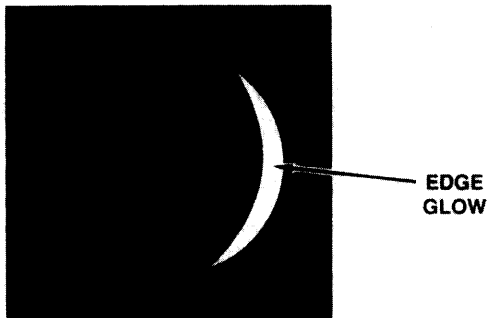

Figure 3-8. Edge Glow.
b. Edge Glow. Edge glow is a bright area (sometime sparkling) in the outer portion of the viewing area (see Figure 3-8). To check for edge glow the operator can block out all light by cupping a hand over the objective lens. if the image intensifier is displaying edge glow, the bright area will still show up. **Do not** use if edge glow is present. Replace the image intensifier.